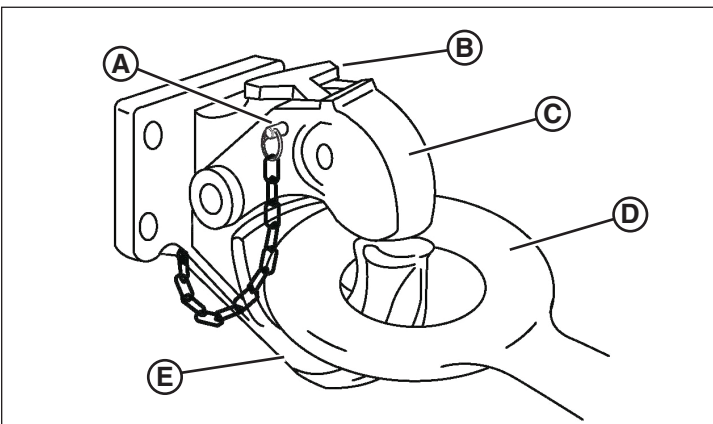

Figure 9
1. Remove the locking pin (A, Figure 9, if equipped) from the pintle hitch (C).
2. Pull up on the latch (B, Figure 9), to open the pintle hitch.
3. Lower the lunette eye (D, Figure 9) into the pintle hook (E).